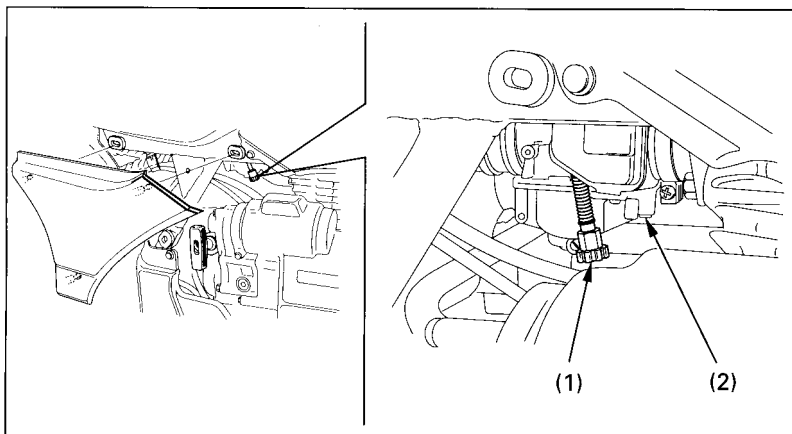

Fig. 4-9
Before adjusting the idle speed and air-fuel mixture, unsnap the right side cover. (Fig4-9)
2. Adjust idle speed by turning the throttle stop screw (Fig. 4-9).